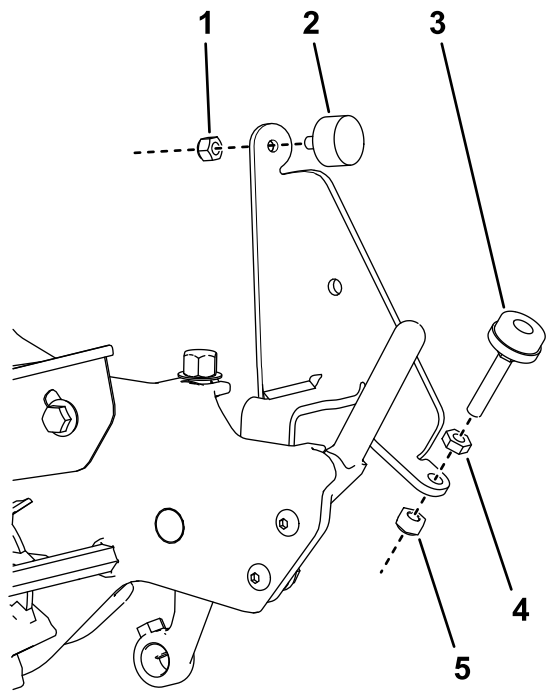

Figure 2
4. Install a rubber bumper to both brush brackets with a locknut (1/4 inch) as shown in Figure 2.
5. Install a level adjustment screw to both brush brackets as shown in Figure 2.